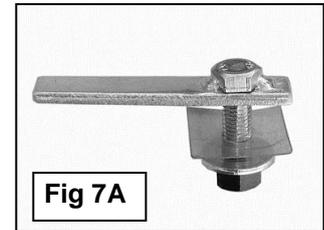
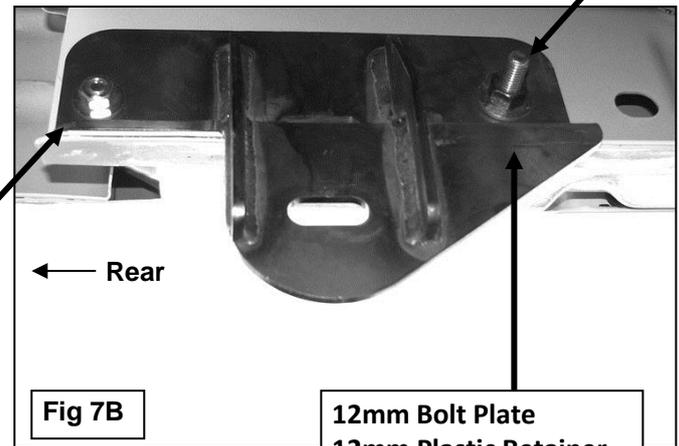
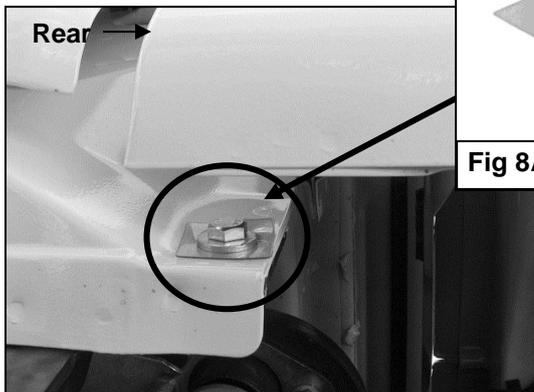

Fig 7A
Fig 7B
Fig 8A
6. Move toward the rear of the vehicle and remove the tape covering the holes on the inner body panel. Select (1) 12mm Bolt Plate and thread (1) 12mm Plastic Retainer part way onto it, **(Figure 7A)**. Insert the Bolt Plate and Retainer into the rear mounting hole, **(Figure 7B)**, as described in **Step 4**.
7. Hang the driver side Rear Mounting Bracket from the Bolt Plate and secure it with the included (1) 12mm Lock Washer, (1) 12mm Flat Washer, and (1) 12mm Hex Nut, **(Figure 7B)**. Insert (1) 10mm x 35mm Hex Bolt, (1) 10mm x 30mm OD Large Flat Washer with (1) 10mm Plastic Retainer into the hole at the rear of the Mounting Bracket from the outside-in, **(Figures 8A & 8B)**. **NOTE:** The Plastic Retainer is intended to protect the outer painted surface of the body. Thread the Plastic Retainer onto the Hex Bolt so that it is between the 10mm Large Flat Washer and the body. Secure the Bracket with (1) 10mm Lock Washer, (1) 10mm x 30mm Large Flat Washer and (1) 10mm Hex Nut. Do not tighten hardware at this time.